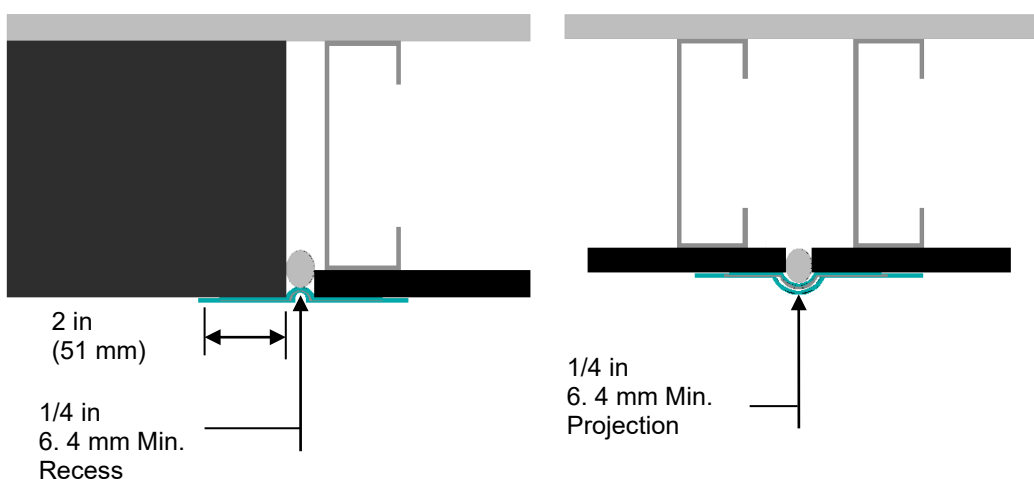

Figure 13
- a. The width of the AquaFlash Mesh must overlap each side of the joint a minimum of 2 in (51 mm) - Figure 13.